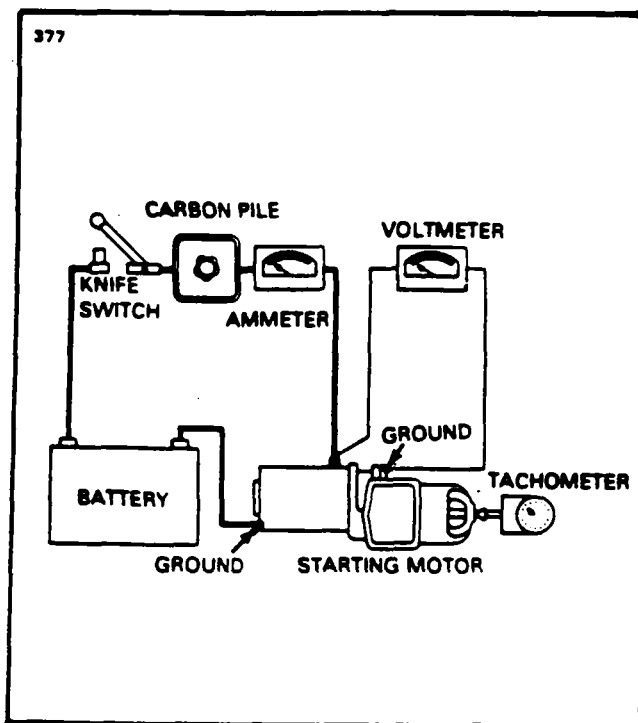

Figure 80-5. No-Load Test Hook-up
1. After the starting motor is reassembled, it should be tested to see that the no-load current at a certain voltage is within specifications as given in Starting Motor Service Test Specifications. To make this test, connect as shown in Figure 80-5. If current is too high, check the bearing alignment and end play to make sure there is no binding or interference. Two or three sharp raps on the frame with a rawhide hammer will often help to align the bearings and free the armature.